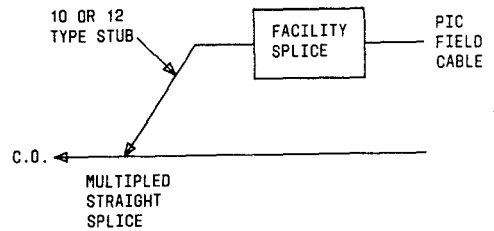

Fig. 48—Block Diagram Showing Facility Splice
6.31 The facility splice (Fig. 48) is constructed similarly to the junction splice with in-line splicing connectors on the CO side, and unilength foldback with bridge connector on the field side. *When a noncolor-coded PIC 12-type stub enters the facility splice, the unit count must be determined, and the pairs placed into the index strip in numerical sequence (1-25; 26-50; 101-125; etc).*